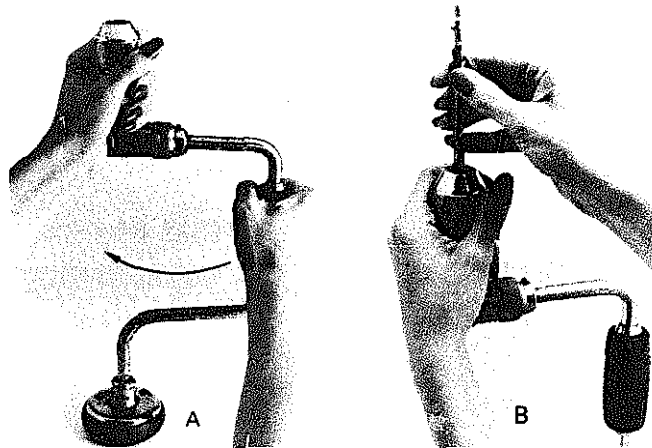

Fig. 10-30 Inserting bit in the chuck.
1. To open the chuck for inserting a bit, grasp the chuck with the left hand. With the right hand, turn the handle to the left to unscrew the chuck body from the shell (A, figure 10-30). A few turns will open up the jaws so that the bit tang and shank can be inserted into the socket (B, figure 10-30).